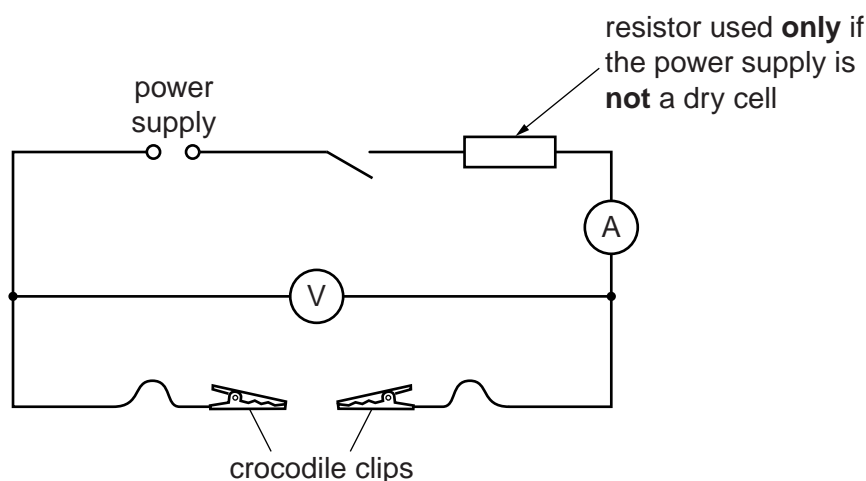

Fig. 3.1
- (iv) Sufficient connecting leads to set up the circuit shown in Fig. 3.1. See note 2.
2. The circuit is to be set up for candidates as shown in Fig. 3.1.
4. If the power supply is a power pack or lead-acid cell, rather than a dry cell, a 1Ω , 3W resistor must be connected in series with the power supply as shown in Fig. 3.1.